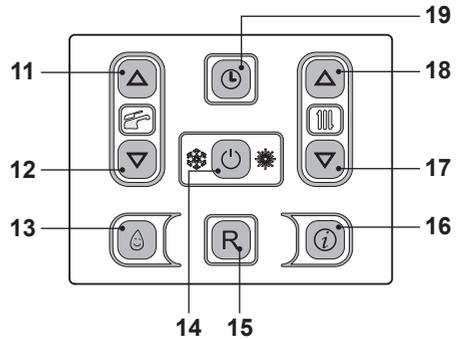
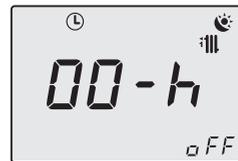

Fig. 2.18
Fig. 2.19
Press keys 17 and 18 (Fig. 2.18) at the same time for 2 seconds to enter programme menu (Fig. 2.19).
Press key 14 (Fig. 2.18) to modify the function status: (14 scrolls through Menu **oFF**, **ch on**, **ch oF**) Fig. 2.20.
Press keys 11 or 12 (Fig. 2.18) to programme the forced heating function Minimum 1 hour to Maximum 30 days (The above example has been set for **ch on** for 1 day) (Fig. 2.21).
To exit programming without making any changes press keys 17 and 18 (Fig. 2.18) at same time for 2 seconds.
Hold down keys 17 and 18 (Fig. 2.18) at the same time for 2 seconds until the remaining time and status of the programme appears on the LCD display.
Press key 14 (Fig. 2.18) to modify the status to "oFF".
To exit programming without making any changes press key 17 and 18 (Fig. 2.18) at the same time for 2 seconds or wait 60 seconds.